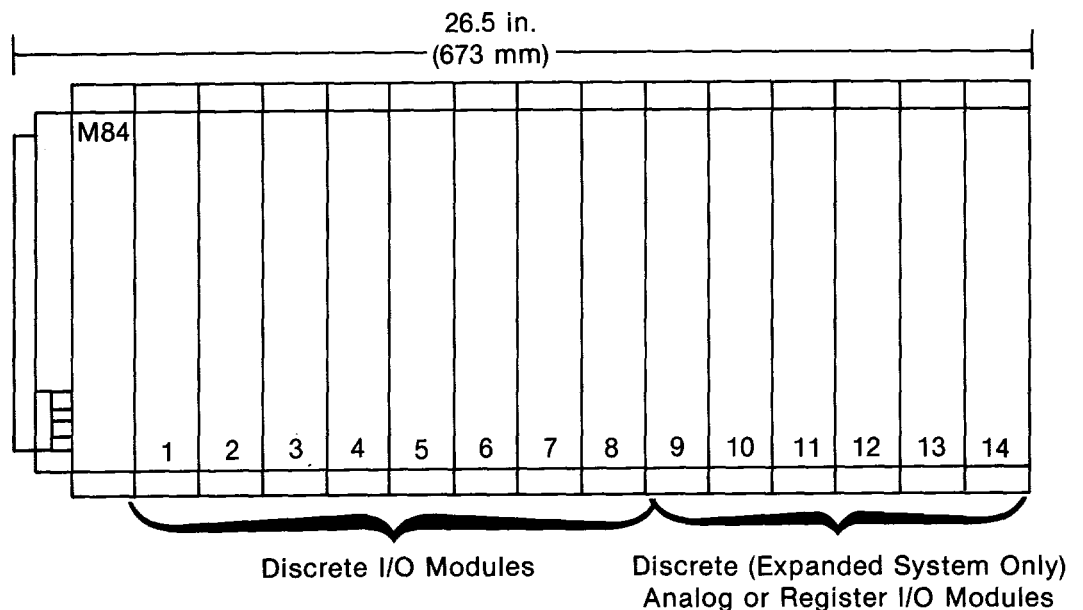

Figure 2-2. Expanded System Configuration Diagram
- e) Analog or register modules must be physically mounted to the right of all discrete modules (see Figure 2.2).